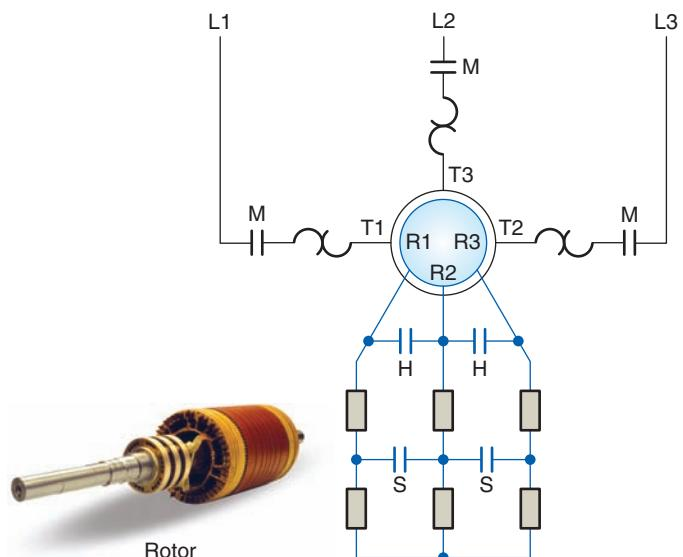

Figure 8-49 Wound-rotor magnetic motor controller.
Figure 8-49 shows the power circuit for a wound-rotor magnetic motor controller. It consists of a magnetic starter (M), which connects the primary circuit to the line, and two secondary accelerating contactors (S and H), which control the speed. The operation of the circuit can be summarized as follows: